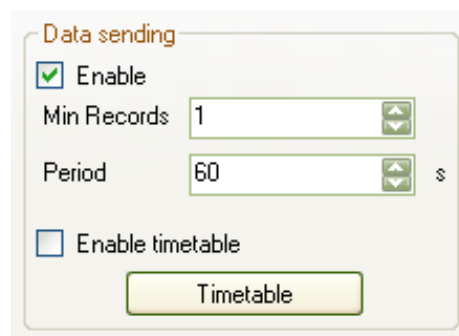

Fig. 2.3.1 Data sending options view
Data sending parameters (bottom left) are used to set-up sending rules. User can disable data sending via GPRS. In this case device will act as black box and only collect records. About 5000 records can be stored and after this, device will start overwriting oldest records. User also define minimum numbers of records in order to start session (saves traffic if your GSM operator has big session rounding like 10kb or 100kb) and sending period (Fig. 2.3.1). For advanced sending rules user can use timetable by enabling it and configuring (click “Timetable”).
9. Select priority (Low – do not start GPRS session after event and send data according to timing defined in parameters “Period” and “Timetable”(Fig. 2.3.1), High – start GPRS session after event and send data if “Timetable” allows GPRS activity at that time).